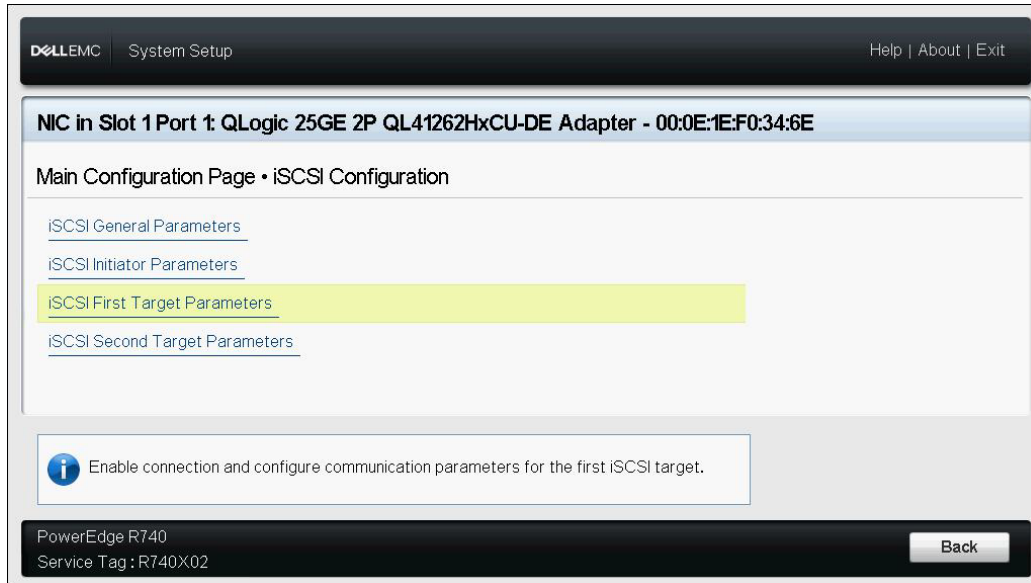

Figure 9-11. System Setup: Selecting iSCSI First Target Parameters
8. Select **iSCSI First Target Parameters** (Figure 9-11), and then press ENTER.